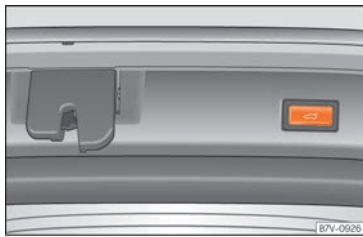

Fig. 104 Button with rear lid open
- **OR:** press the  button on the open rear lid **»» Fig. 104 »»  in Introduction on page 108.**
- Hold down the button »» Fig. 104 with the rear lid open for at least three seconds. The opening angle is memorised.
- Hold down the button »» Fig. 104 with the rear lid open for at least three seconds.